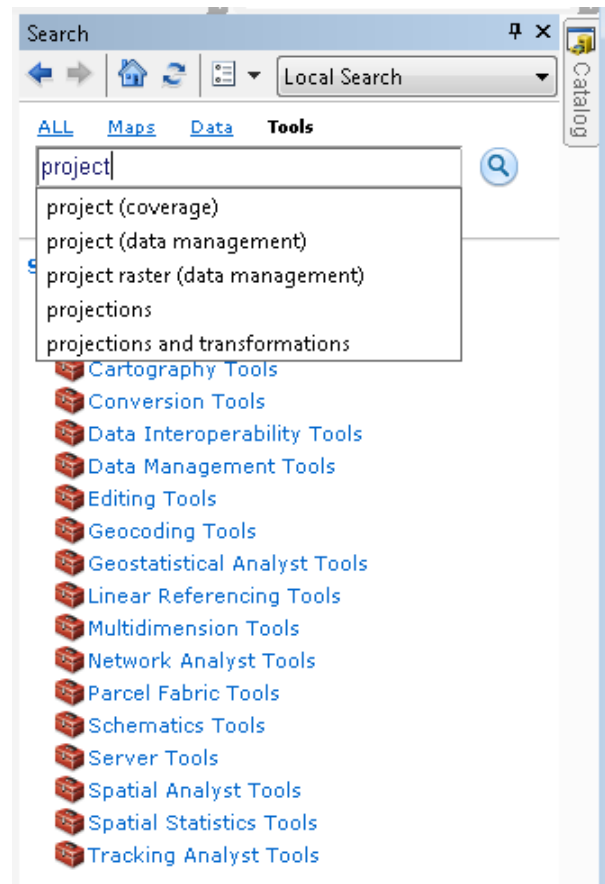

Figure 6. Searching for the Project tool
- 2 Click *Tools* and type *Project* in the keyword window (figure 6). There is a tool called *Project (data management)*, which looks promising. Click the *Project (data management)* tool to activate it.